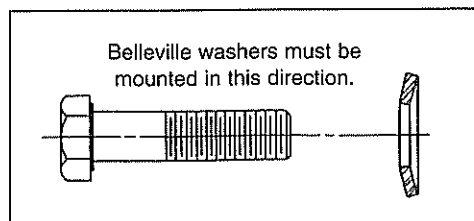

Figure 6-42
4. To install, slide the fan on the shaft making sure the fan mounting surface is toward the drive hub. Align reference marks (this is important for assembly balance) and mount the fan to the drive hub with the capscrews and belleville washers (figure 6-42). Torque the capscrews to 60 ft-lb (81 N-m).